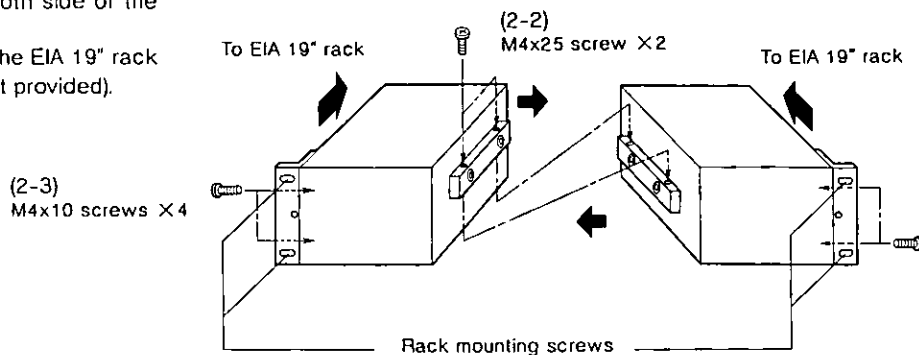

Fig. 3
- 2-2. Attach two Remote Control Units by using four screws (M4×25, provided), as shown in Fig.3.
- 2-3. Fix two Rack Mounting Angles(1) on both side of the jointed Remote Control Units.